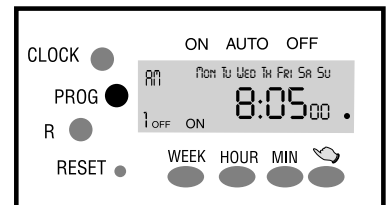

Figure 8
- 2.5 Press **PROG** again to set the "OFF" time. The display should show "1 OFF" (See Figure 8).